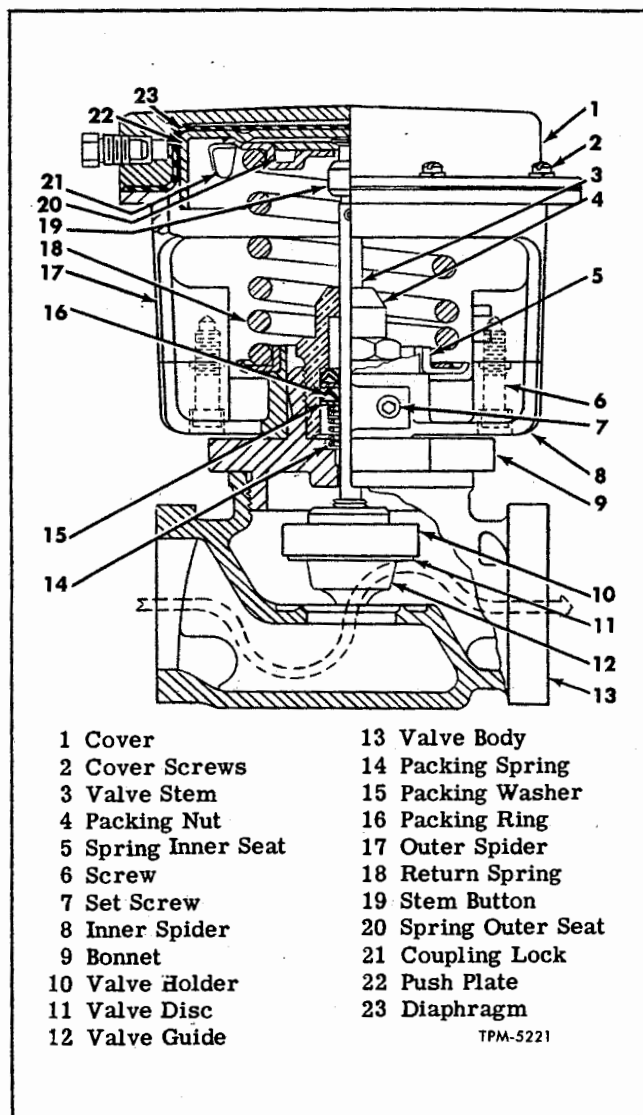

Figure 24—Water Modulation Valve
Water modulation valve (fig. 24) is an air operated water control valve installed in supply line leading to underfloor heater core. Modulation valve controls the flow of warm water through the heater core in accordance with the air pressure delivered to it by the Grad-U-Stat.
NOTE: The packing nut (4, fig. 24) is self-adjusting; excessive tightening will not stop packing from leaking. The packing must however, be threaded completely into bonnet.
NOTE: Key numbers in text refer to figure 24.
mentioned. NOTE: Turn packing rings on valve stem threads with the spot of paint on each ring facing outward from valve body. Rings must be positioned as shown in figure 24. Screw packing nut into bonnet (9) and then tighten nut firmly.
4. Thread stem button (19) on end of valve stem to a distance whereby over-all length of stem with stem button and valve guide equals measured length recorded prior to disassembly.
5. Attach outer spider (17) to inner spider (8) with two screws (6); then position spiders over bonnet (9) and secure with two set screws (7).
6. Position valve return spring inner seat (5), return spring (18), and spring outer seat (20) over